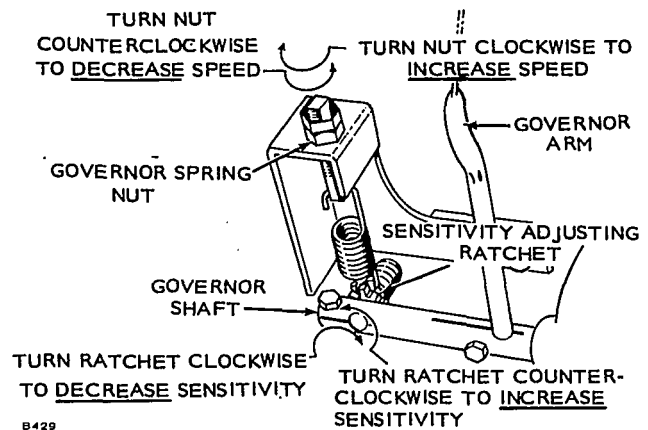

FIGURE 44. GOVERNOR ADJUSTMENTS
**Speed Adjustment:** To change the governor speed, change the spring tension by turning the governor spring nut (Figure 44). Turn the nut clockwise (more spring tension) to increase RPM and counterclockwise to reduce governed speed. Hold a tachometer against flywheel cap screw.